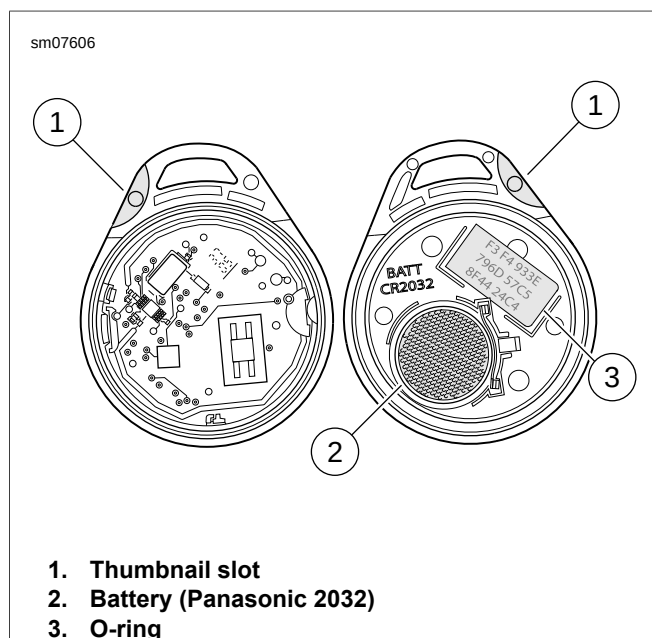

Figure 6-125. Open Fob: HFSM
- a. See Figure 6-125. Place a thin blade in the thumbnail slot (1) between the two halves of the case.
- a. See Figure 6-125. With O-ring (3) in place, align case halves.